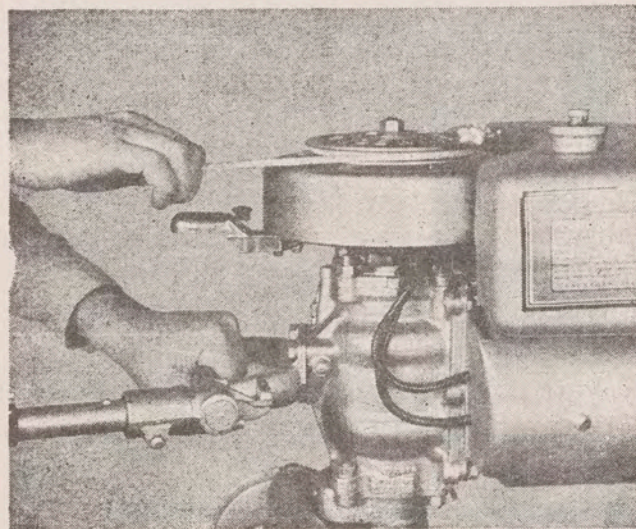

Fig. 5
**STARTING** (cranking) is achieved by wrapping a cord around pulley on the flywheel provided for this purpose and by pulling briskly on grip cord. Fig. 5. Model KD equipped with ready pull. See starting instructions on page 14.
Starting Sea Horse motors is accomplished first, by setting position of the magneto lever; second, priming; third, pulling quickly on starting cord grip. Fig. 5. (See starting instructions). Model KD is equipped with ready-pull, simply pull on ready-pull grip.